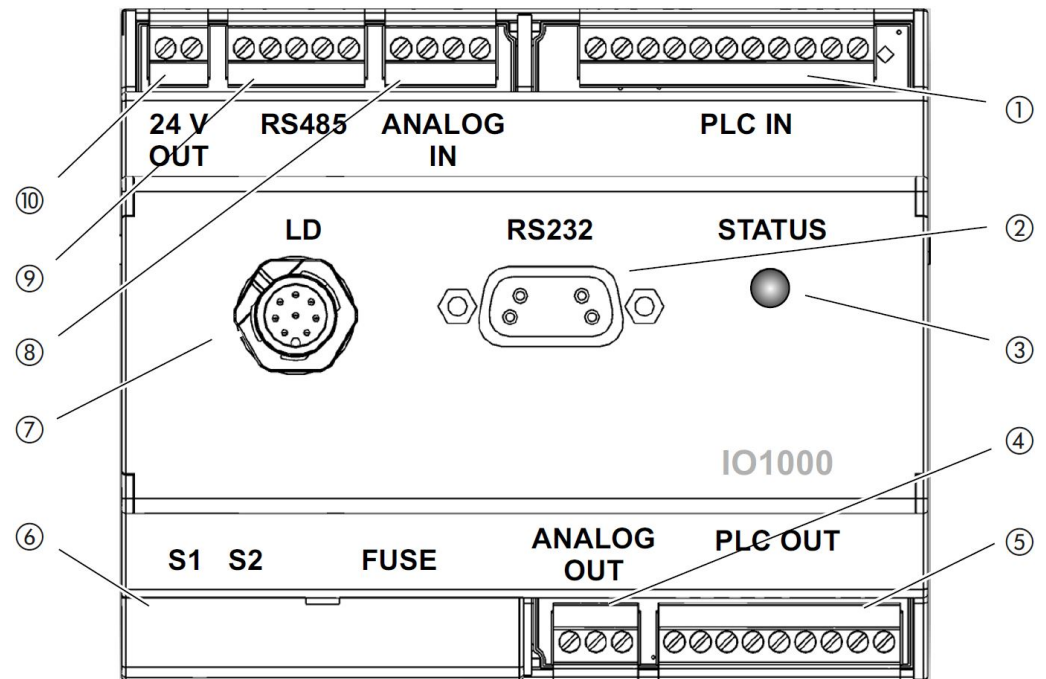

Fig. 1: Front view
#### PLC IN, Fig. 1 (1)
**PLC OUT, Fig. 1 (5)**
**ANALOG IN, Fig. 1 (8)**
**ANALOG OUT, Fig. 1 (4)**
### RS232, Fig. 1 (2)
### RS485, Fig. 1 (9)
**STATUS LED, Fig. 1 (3)**
**FUSE and DIP switch S1, S2, Fig. 1 (6)**
**Connection LD, Fig. 1 (7)**